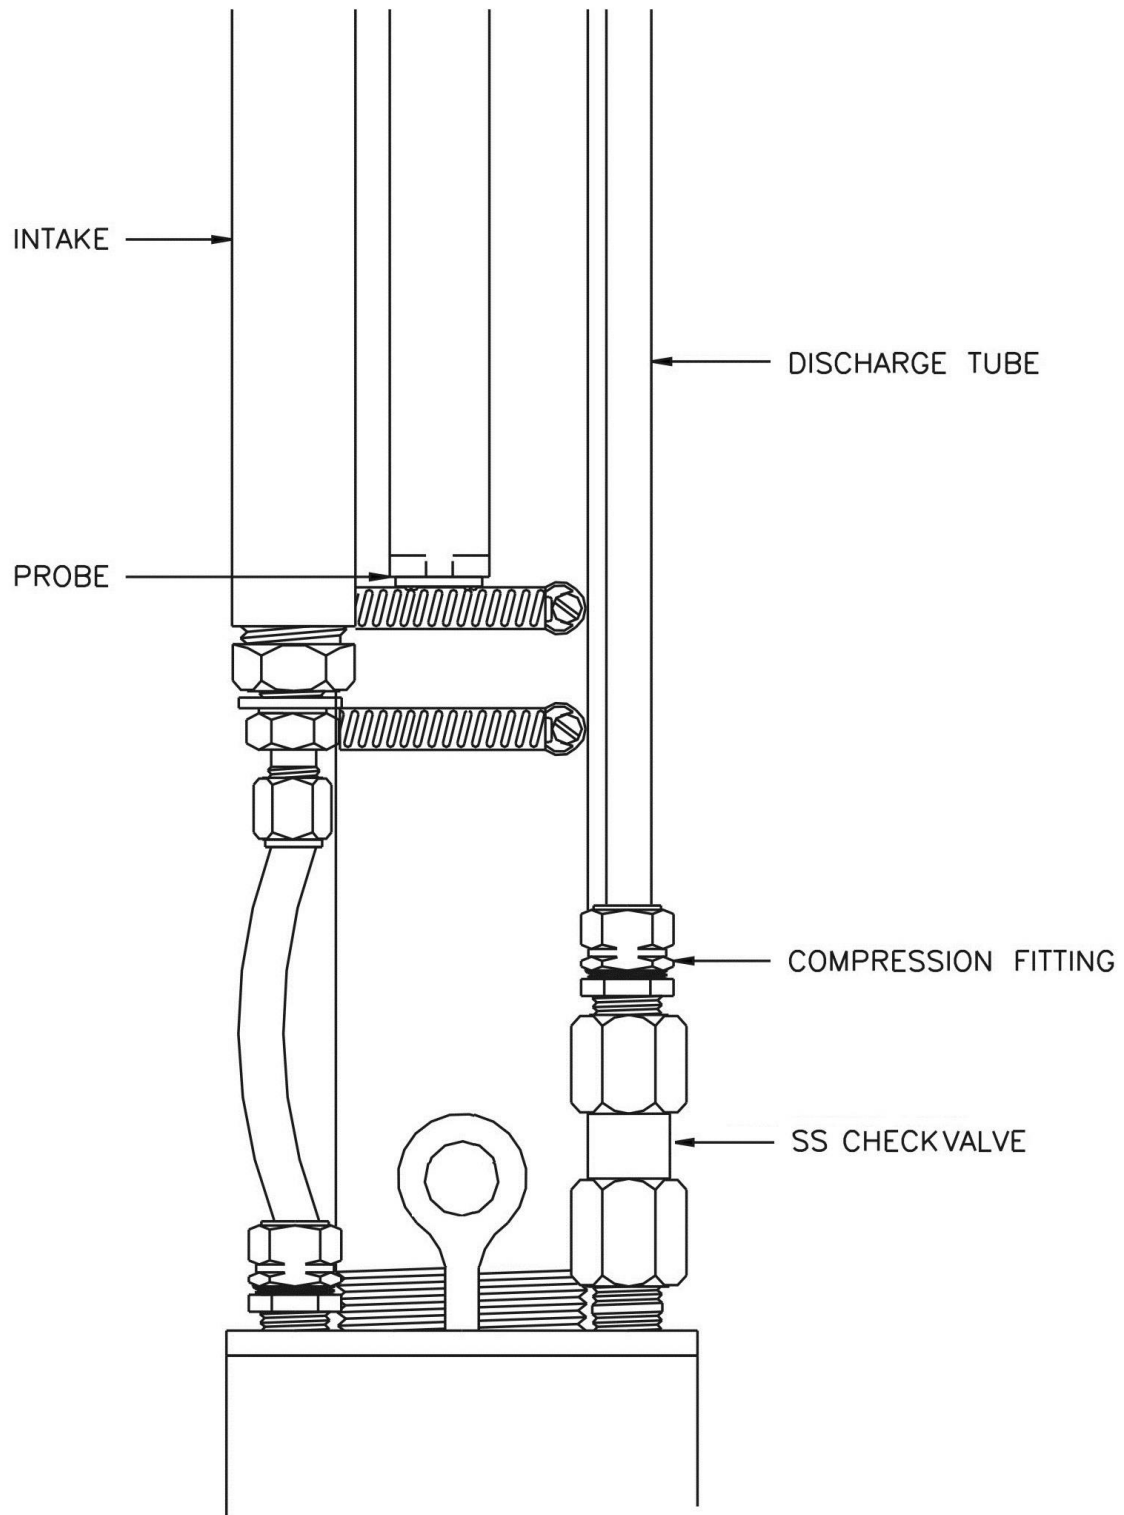

Figure 2-8 – Location of Discharge Hose
1. Attach one end of the 3/8" nylon product hose to the compression fitting on the checkvalve (see Figure 2-8.)